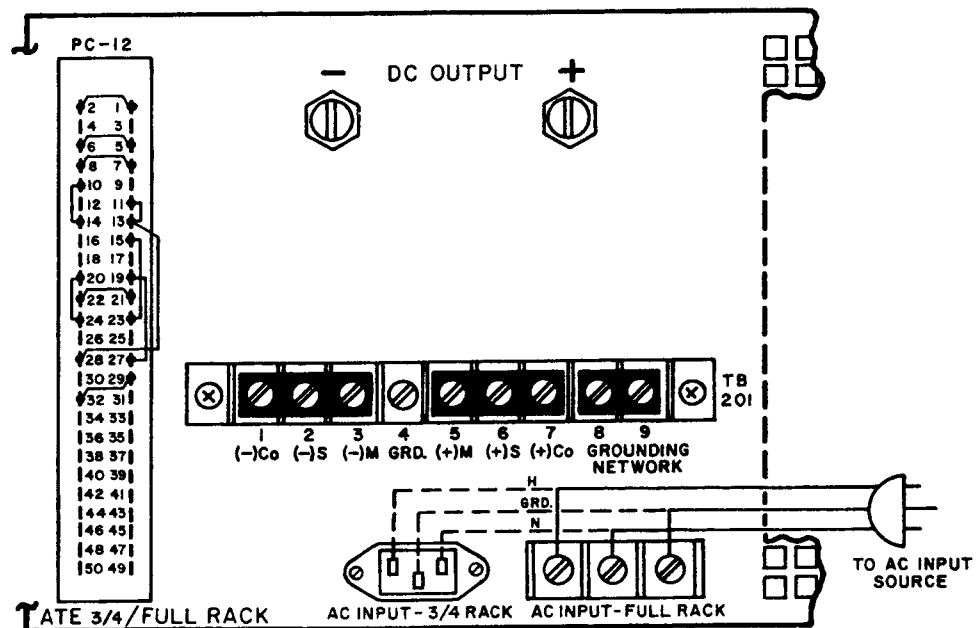

FIG. 3-2 STANDARD JUMPER LINK CONNECTIONS FOR LOCAL (FRONT PANEL) CONTROL OF THE OUTPUT VOLTAGE, OUTPUT CURRENT AND VP CROWBAR LEVEL (SLOW MODE).
3-18 (Refer to FIG. 3-2). The Kepco power supply is shipped from the factory with several jumper links, connected to the programming connector (PC-12) and to the barrier strip (TB201). These links may be removed and replaced at will, depending on the operating mode and application of the power supply. Positioned as shown in FIG. 3-2, the links are connected for front panel (local) control of the output voltage, output current and VP crowbar level with the power supply operating in the "slow" mode. **Links remaining on the mating jack must be soldered, links on the barrier strip must be tightened.** LOOSE WIRES OR LINKS AT THE BARRIER STRIP OR THE MATING JACK WILL CAUSE MALFUNCTION OF THE POWER SUPPLY.
**Note:** Connection diagrams in Section III are applicable for 3/4 rack and for full-rack ATE power supplies. These diagrams represent partial views of the ATE rear panel. The AC source input (socket and line-cord for 3/4 rack ATE models, barrier strip with wired line-cord and cover for full-rack ATE models, as shown in FIG. 3-2) will be deleted on all further diagrams to simplify the presentation.